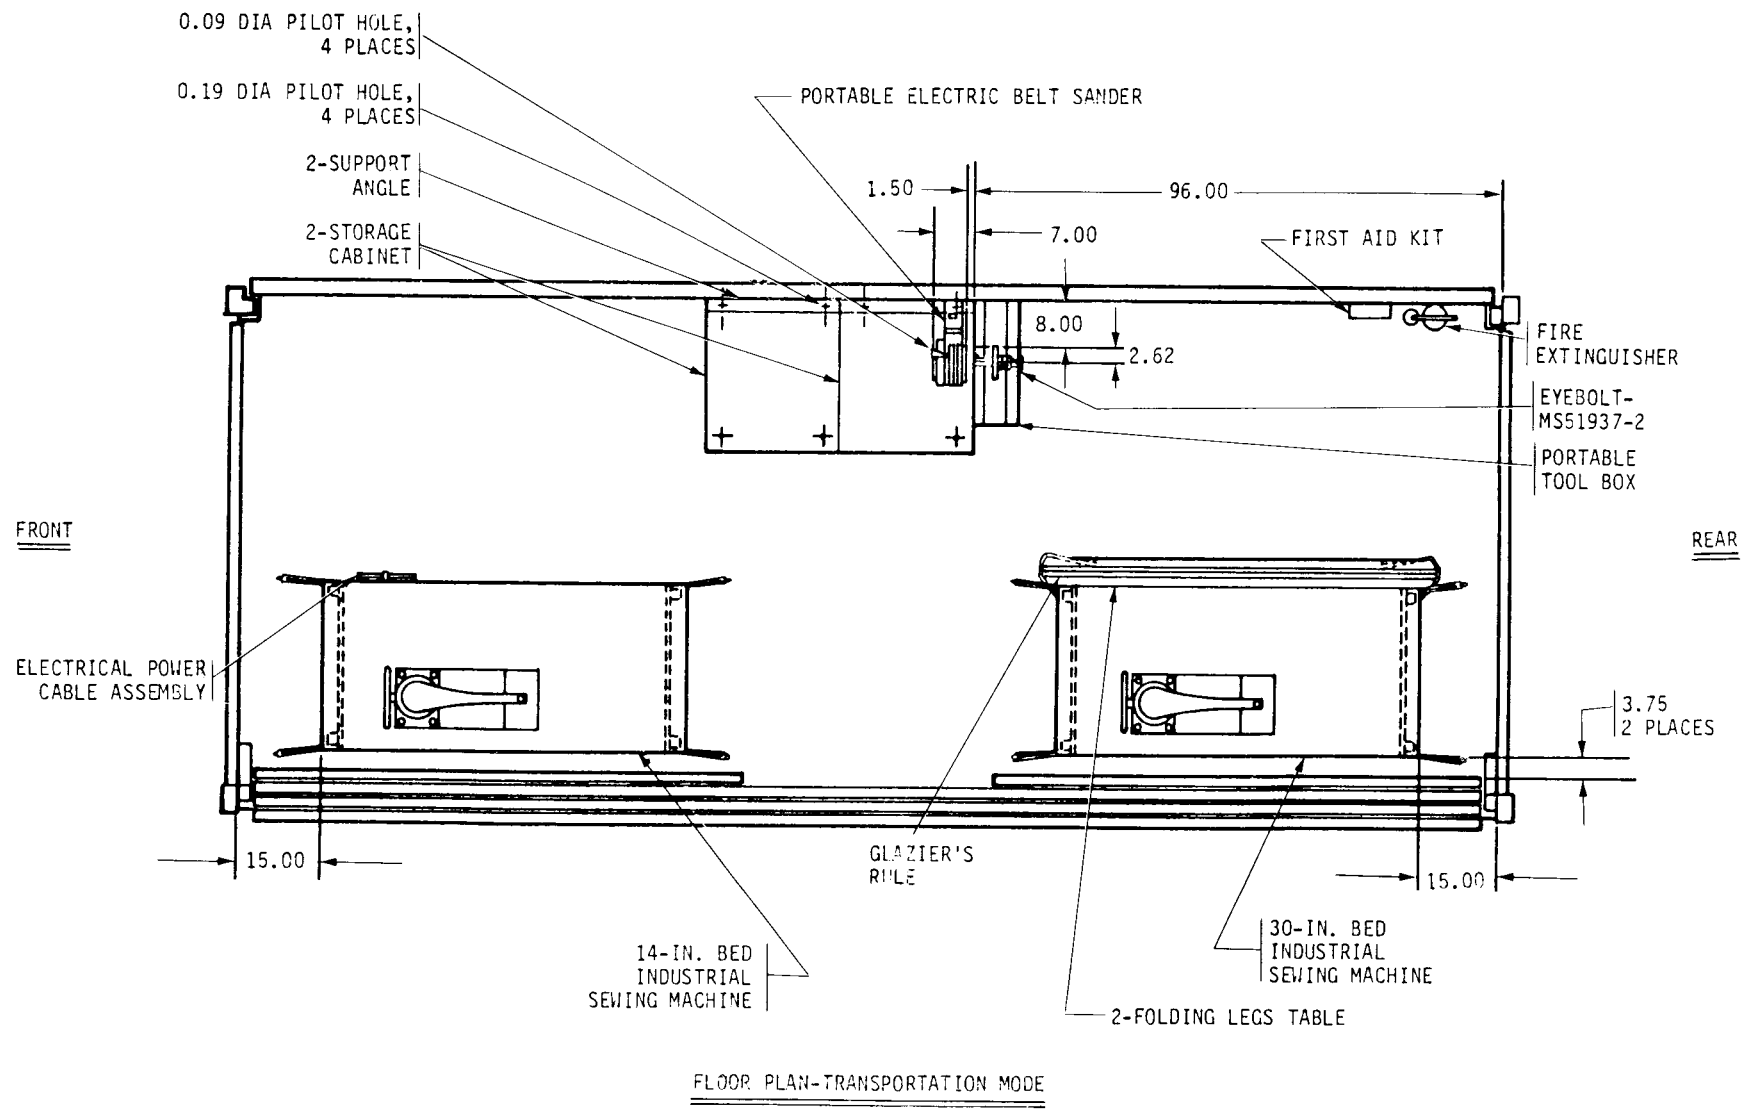
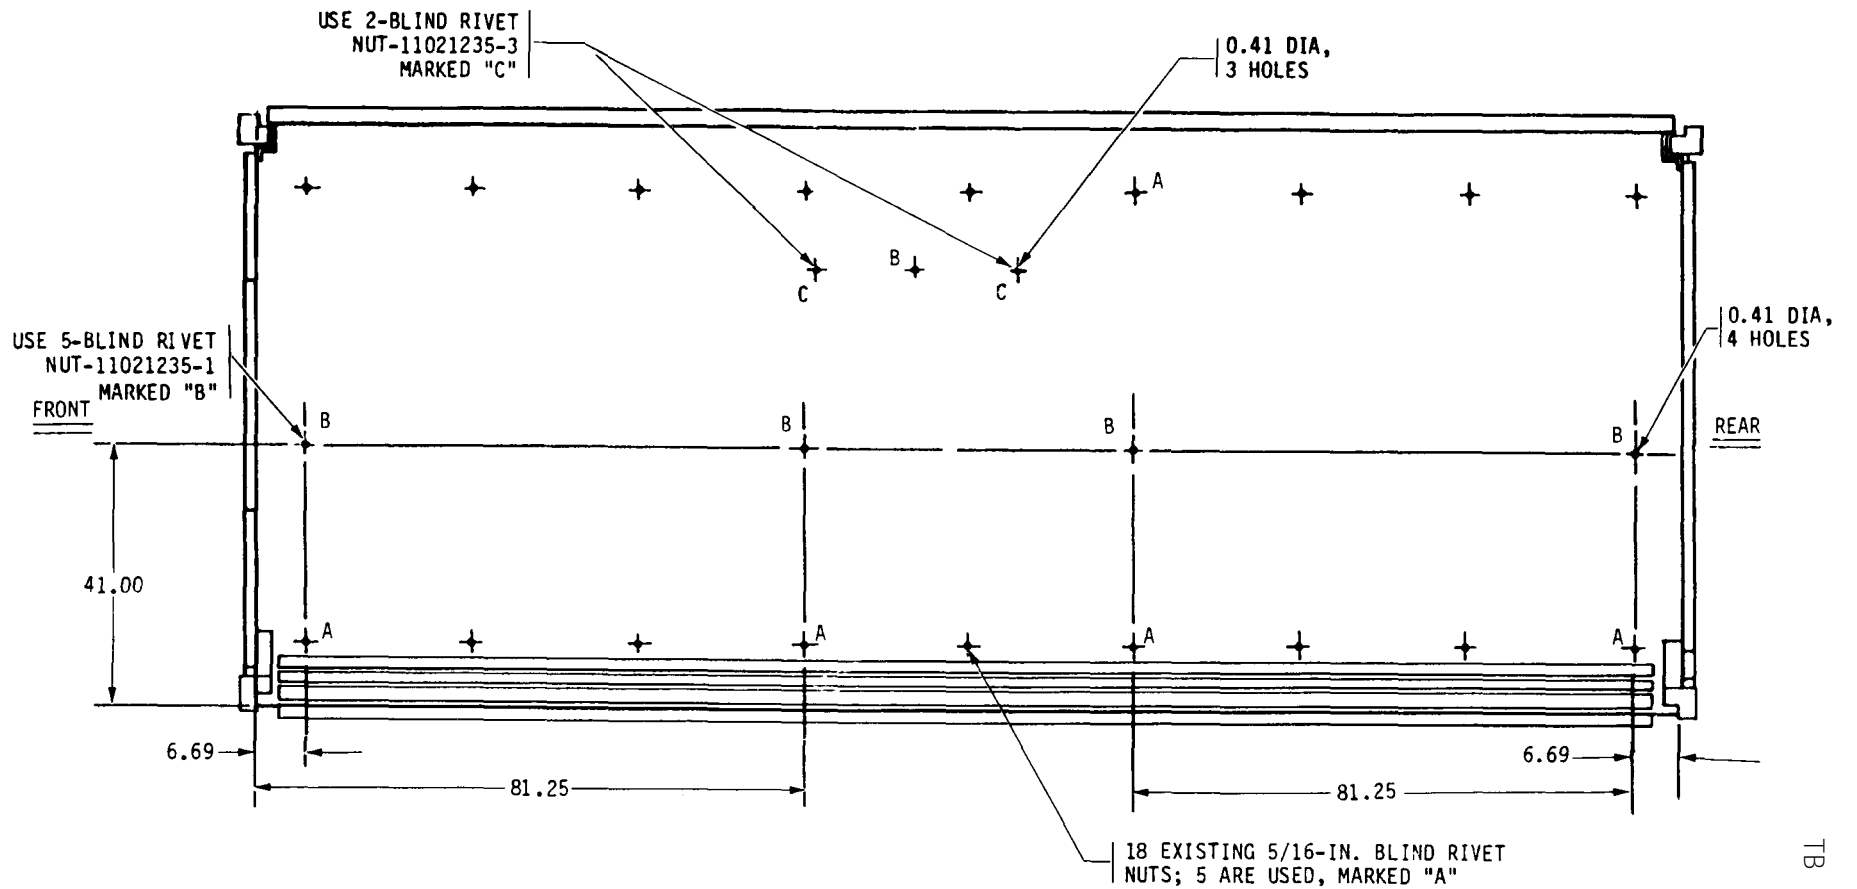

Figure 9. Components to be Mounted, Floor Plan, Unit 2, ISO-2-1.
Figure 10. Dimensions for Blind Rivet Nuts, Floor Plan, Fixed Floor, Unit 2, ISO-2-1.
Position storage cabinets, 14-in. bed and 30-in. bed industrial sewing machines, first aid kit, and fire extinguisher as shown in figures 9, 11, 13, 14, and 15. Use the equipment mounting holes as template for location of blind rivet nuts. Positions may be varied to drill into structural members in fixed floor.
(2) Mark and drill eleven 0.41-in. diameter holes in fixed floor and right side wall in accordance with figures 10 and 12 to a depth of 1.50 in. maximum. Inject potting compound as required and install nine 5/16-in. blind rivet nuts (11021235-1) in accordance with figures 10 and 12. Install two 5/16-in. blind rivet nuts (11021235-3) in accordance with figure 10.
b. Install nine 5/16- x 2-7/8-in. shoulder eyebolts (MS51937-2) in blind rivet nuts marked "A" and "B" in floor in accordance with figures 9, 10, and 13 and secure with nine 5/16-in. lock-washers (MS35338-45) and nine 5/16-in. hex nuts (MS51967-5).
Eighteen 5/16-in. blind rivet nuts exist in the floor of the ISO-2-1 shelter, five of which are used for component installation (marked "A" in figure 10).
(1) Position two storage cabinets (7125-00-330-0130) on right side of shelter in accordance with figures 9 and 11. Mark and drill three 0.34-in. diameter holes through storage cabinet bottoms (two holes in storage cabinet closest to front end). Locate holes at the edges allowing for minimum required clearance for 5/16-in. hex head capscrews. Secure storage cabinets to floor using three 5/16-in. lockwashers (MS35338-45), two 5/16- x 1-in. hex head capscrews (MS90725-34) used with the two 5/16-in. floor-mounted blind rivet nuts, and one 5/16- x 3/4-in. hex head capscrew (MS90725-32) in accordance with figure 10.
(2) Position two support angles (11021151-4) against right side wall and on top of the two storage cabinets in accordance with figure 9. Using support angles as templates, mark and drill four 0.19-in. diameter pilot holes, 2-1/2-in. from each end of the
(4) Position and secure portable tool box (5140-00-315-2758) to storage cabinet and floor-mounted eyebolt using a 30-in. retaining strap (7550588-8) in accordance with figures 9 and 11.
(5) Using a strap loop (MS51939-3) as a template, mark and drill four 0.09-in. diameter pilot holes in storage cabinet top in accordance with figure 9 and secure two strap loops to storage cabinet top using four #10 x 1-in. flat head wood screws (MS35492-78). Secure portable electric belt sander (5130-00-596-9725) to storage cabinet using a 30-in. retaining strap (7550588-8) in accordance with figures 9 and 11.
(6) Position 14-in. bed industrial sewing machine (3530-00-892-4630) in front left corner in accordance with figure 9. Secure to floor using four 3/6-in. retaining straps (7550588-4), passed through floor-mounted eyebolts and wrapped around table legs, in accordance with figures 9 and 13.
(7) Secure electrical power cable assembly (6150-00-682-3460) to lower shelf of 14-in. bed industrial sewing
machine using a 24-in. retaining strap (7550588-5) in accordance with figures 9 and 13.
(8) Position 30-in. bed industrial sewing machine (3530-00-892-4652) in rear left corner in accordance with figure 9. Secure to floor using four 36-in. retaining straps (7550588-4), passed through floor-mounted eyebolts and wrapped around table legs, in accordance with figures 9 and 13. Apply wheel brakes and swivel locks at this time on previously installed casters (11021187).
(9) Position two folding legs tables (7195-00-357-7480) lengthwise on edge of 30-in. bed industrial sewing machine, in accordance with figures 9 and 13, with tabletops facing each other. Place glazier's rule (5210-00-819-7589) between tabletops. Secure folding legs tables to 30-in. bed industrial sewing machine table legs using two 66-in. retaining straps (7550588-9).